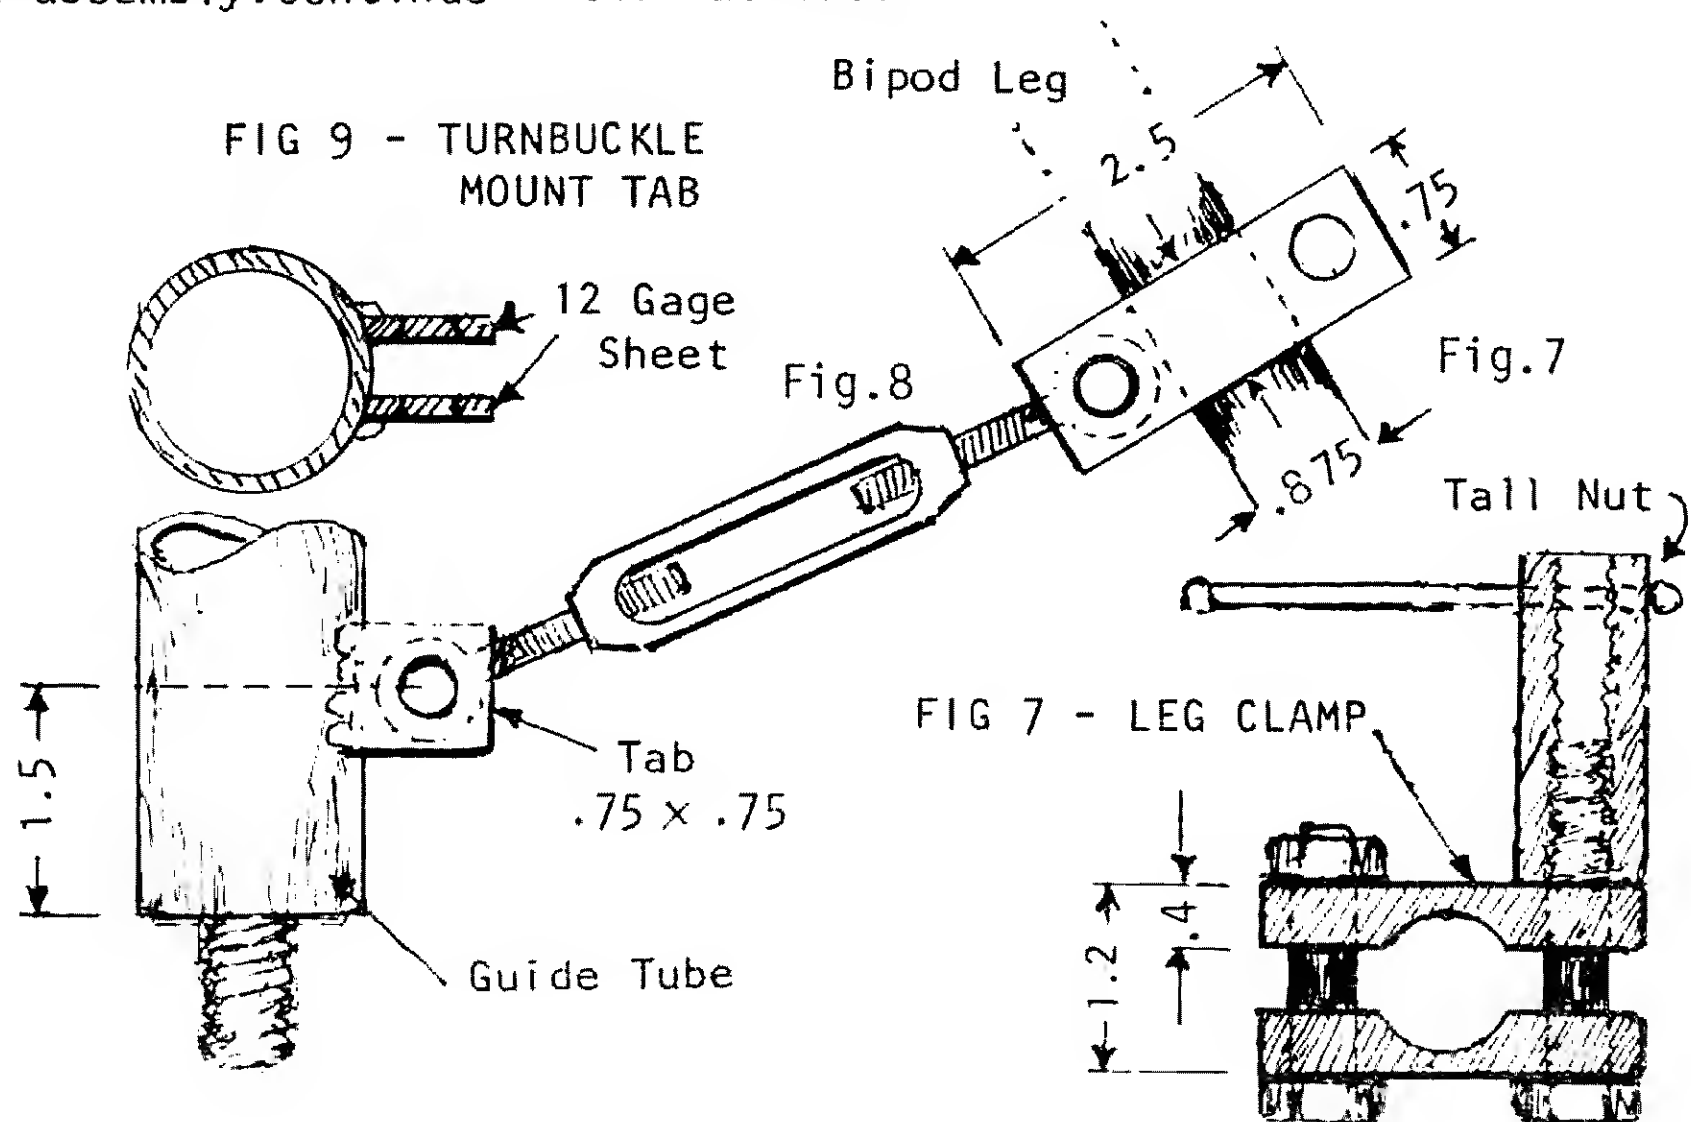

FIG 9 - TURNBUCKLE MOUNT TAB
- c. Turnbuckle Mount Tabs Fig.9